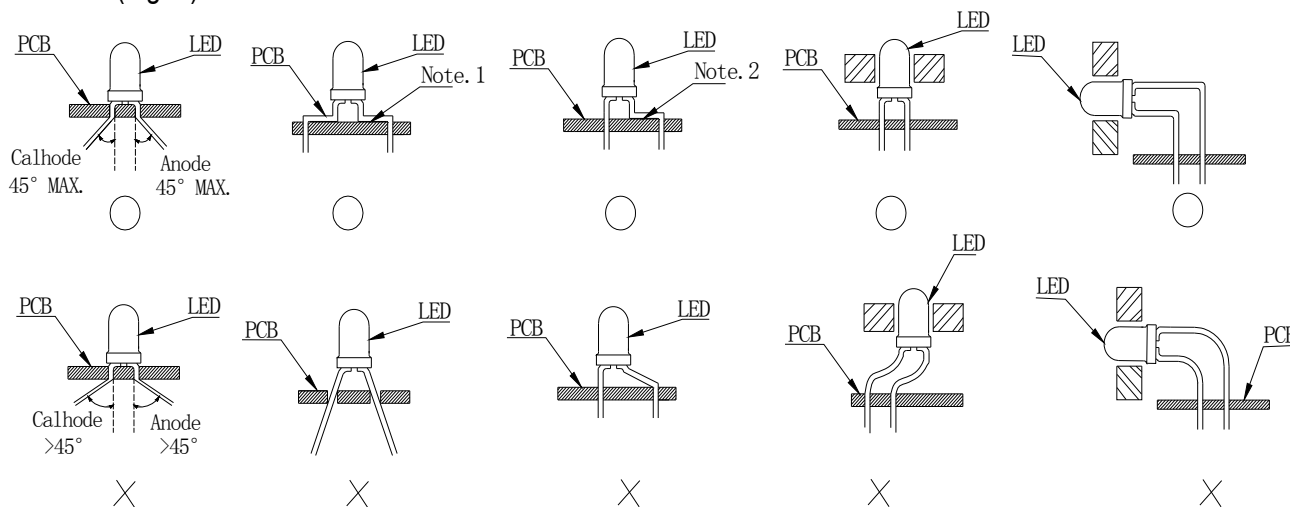

Fig. 1
1. The lead pitch of the LED must match the pitch of the mounting holes on the PCB during component. Lead-forming may be required to insure the lead pitch matches the hole pitch. Refer to the figure below for proper lead forming procedures.(Fig. 1)